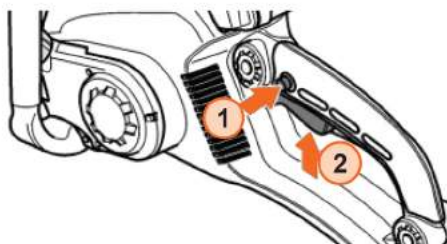

Figure 11
Press and hold down the switch lock ① (see Figure 11). Press and hold the rear On/Off switch ②.